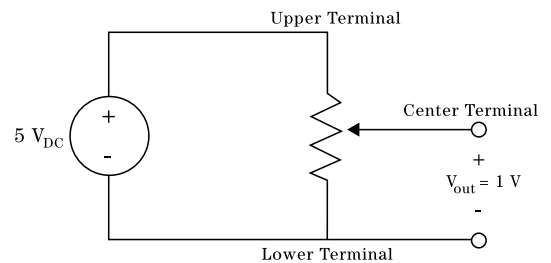

Figure 4
- b. With the power off, construct the circuit of Fig. 4. Turn on the power supply. Adjust the potentiometer so that the output,  $V_{out}$ , is one volt. Shut the power off and disconnect the supply. Carefully, without moving the arm on the potentiometer, measure the value of the resistance between the upper terminal and the center terminal, and again between the lower terminal and the center terminal. Draw the equivalent voltage divider circuit in your journal, and label the resistances with their actual value. Use these measured values and the voltage divider relationship to show that the potentiometer functions as a voltage divider.
This is a design problem. Ask a lab instructor for a load resistor,  $R_{LOAD}$ . Your task is to design a circuit that will deliver  $1.5\text{ V} \pm 5\%$  across your particular load with the load connected. Figure 4 demonstrates the problem. The resistors available for use in the design are listed in Fig. 4.